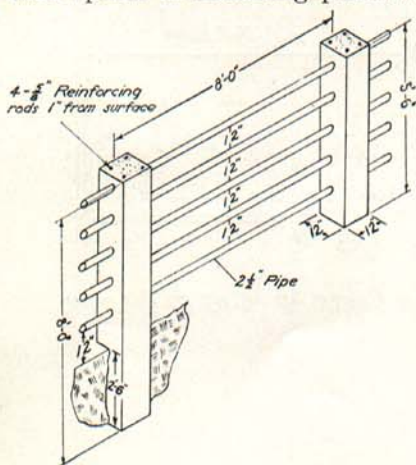

Fig. 4. The pipe and concrete post fence recommended.
**Permanent Construction** calls for concrete, or steel, or a combination. The solid concrete wall—or half wall—is objectionable because it obstructs air movement. The yard is hot in summer, and in the winter the solid wall catches snow. Pipes and concrete posts make an unusually strong and durable bull fence. Pipes range from 2 inches to 4 inches in diameter. Sometimes old boiler flues from the junk yard can be utilized. The flues are sometimes filled with concrete (Fig. 4).